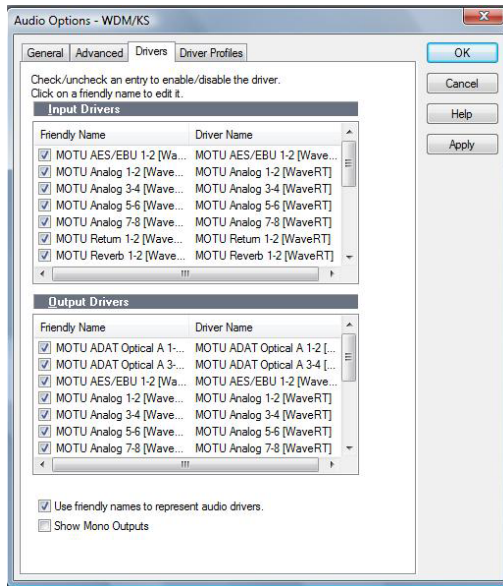

Figure 8-2: Activating the MOTU audio WDM driver in SONAR by highlighting Traveler-mk3 inputs and outputs.
- 5 Check the Traveler-mk3 inputs and outputs that you wish to use and uncheck the ones you don't as shown in Figure 8-2.
Once you've enabled the Traveler-mk3 inputs and outputs in the Drivers tab of Sonar's Audio Options window (Figure 8-2 on page 63), Traveler-mk3 audio inputs and outputs will appear in Sonar's input/output menus, and you can set them up and use them as any standard audio input and output. If you don't see the optical inputs and/or outputs, check MOTU Audio Console to make sure they are turned on and set to the format you need. If you don't plan to use the optical input or output, turn it off to conserve computer bandwidth.